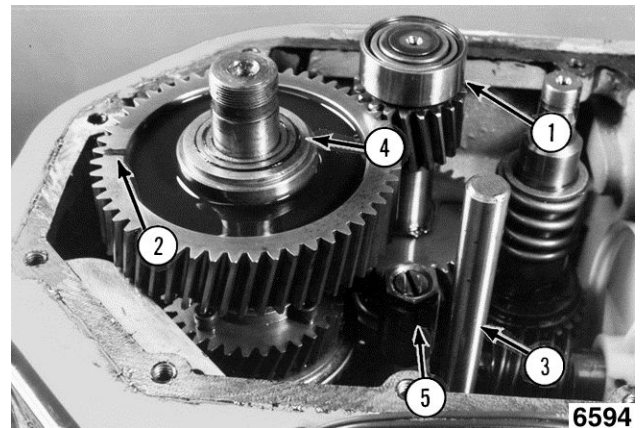

Fig. 45
11. Remove the ball bearing from clutch shaft [1] Fig. 45.
12. Remove planetary shaft assembly shim [4] and top gear [2] Fig. 45.
13. Remove rod [3] Fig. 45.